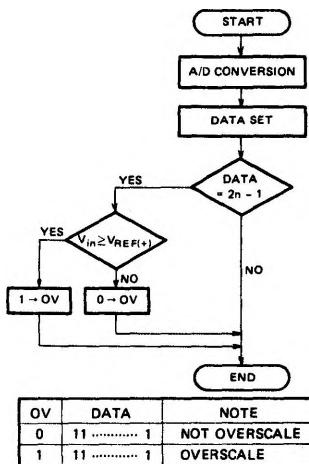
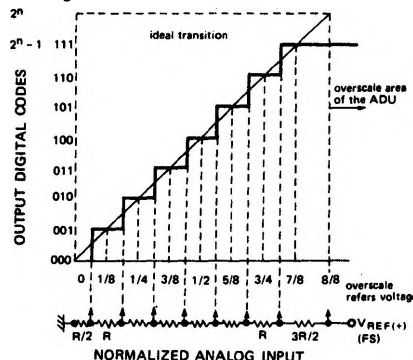

Figure 16 Overscale Check Flow
Figure 17 Definition ADU's Overscale
ADU is equipped with hardware overscale detection function. The overscale detection is performed automatically when the result of A/D conversion is $2^n - 1$ (all bits = 1). When analog input V_{in} is higher than $V_{REF(+)}$, overscale bit (OV) is set to "1". The definition of the overscale is illustrated in Fig. 17. And the flow of overscale check is shown in Fig. 16.